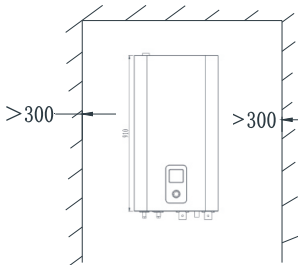

Figure 3.2
2) Space required for installation and maintenance, in mm. (See Figure 3.2 and 3.3)